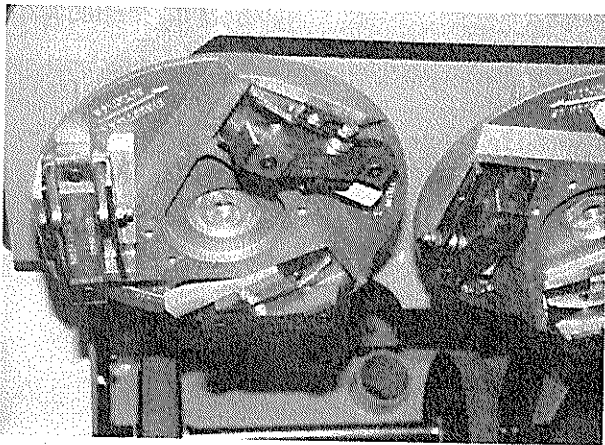
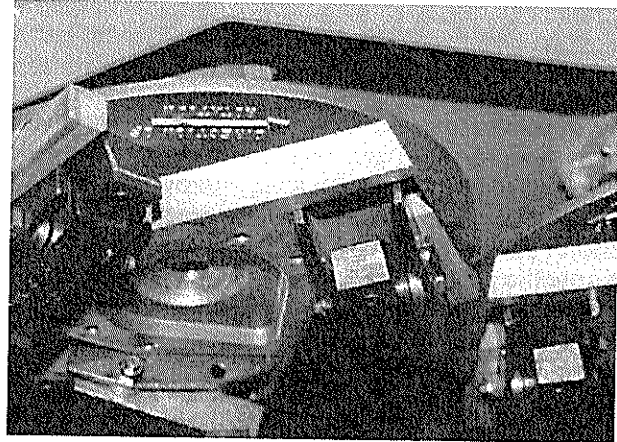

FIGURE 26
FIGURE 27
4) Force an SG24-1800 Mounting Wedge into the area between the multi-accessory attachment and the inside rib of the aluminum disc by hand. The straight side of the mounting wedge contacts the multi-accessory attachment. The angled side of the mounting wedge contacts the rib of the disc, FIGURE 26. An improper mounting configuration is depicted in FIGURE 27.